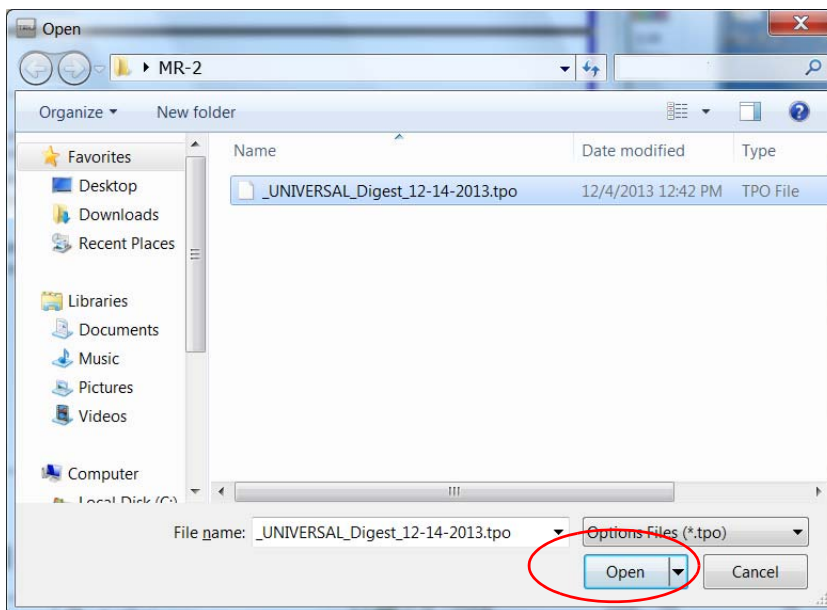

Figure 51: Load OAF
4. Select the appropriate file, and click **Open** (Figure 51).